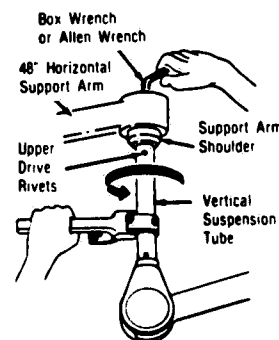

Figure 4-19. SCREWING/UNSCREWING VERTICAL SUSPENSION TUBE.
4. Remove rubber access cover from top of support arm and use wrench to keep shaft from turning. Unscrew the vertical suspension tube from the support arm spindle. (See Figure 4-19)
10. Screw the suspension tube onto the support arm spindle while feeding the wires through the tube. Use a 1-1/2" box wrench or 9/16" Allen wrench to hold the support arm spindle from rotating while tightening the tube. (See Figure 4-19)